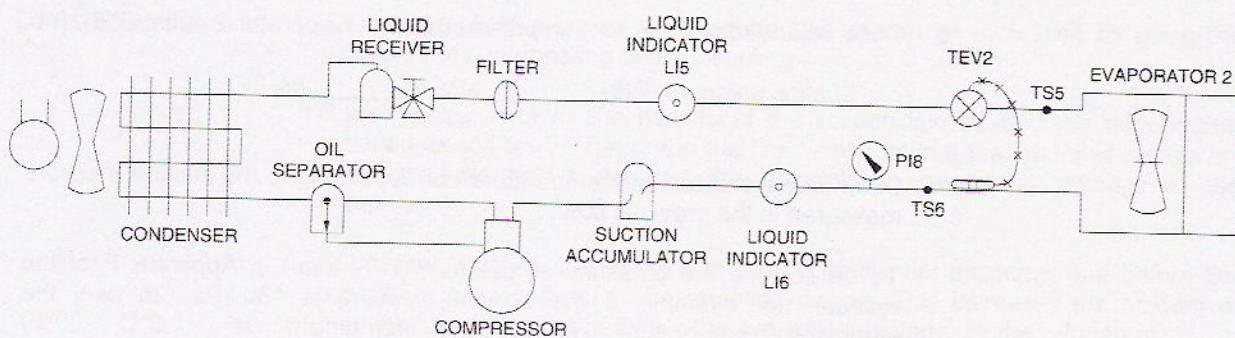

Figure 6-3. Schematic diagram of typical refrigeration system
A schematic diagram of a typical refrigeration system is shown in Figure 6-3. This system will be used to examine superheat when using a thermostatic expansion valve.
1. Open and close the manual valves to arrange the refrigeration system as shown in Figure 6-3. Figure A-8 in Appendix A may be used to assist in the proper set-up of the system.